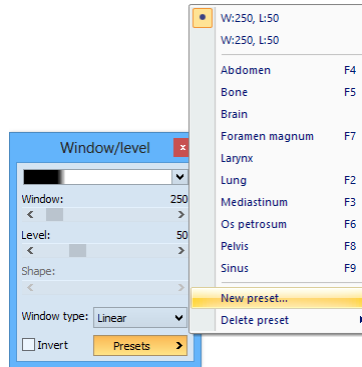
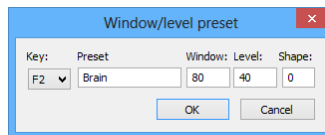

Figure 156 – Creating a new window/level preset
Figure 157 – Window/level preset dialog – defining a new preset
3. Select the **New preset...** menu item (see Figure 156) in the displayed list. The **Window/level preset** dialog (see Figure 157) is then displayed. The initial values for the window, level shape and palette graduation type (even if not displayed) are the same as the current window/level settings in the current view.